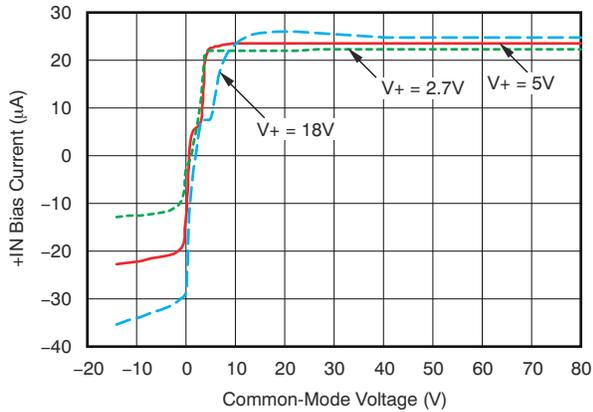

Figure 6-7. INA283-Q1 +IN BIAS Current vs Common-Mode Voltage
- (1) RTI = referred-to-input.
- (2) See typical characteristic graph Figure 6-7.
- (3) The average of the voltage on pins REF1 and REF2 must be between V_{GND} and the lesser of $(V_{GND}+9\text{ V})$ and V_+ .